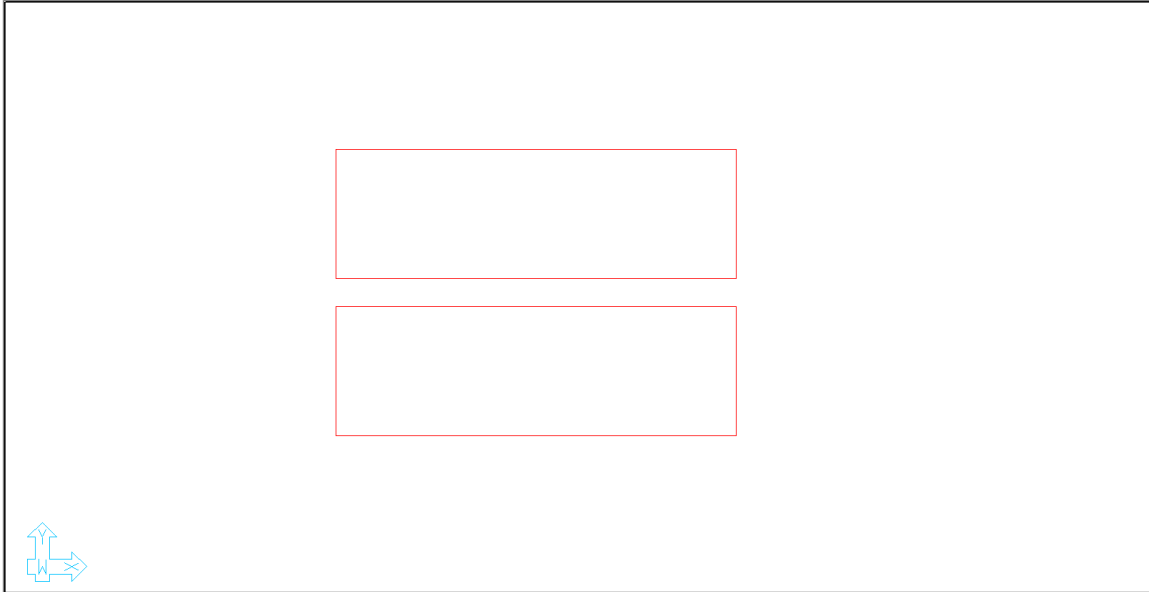

FIGURE 5-19
- Click on the **OK** button, the user should now see the polylines from the imported DWG as shown in **FIGURE 5-19**.